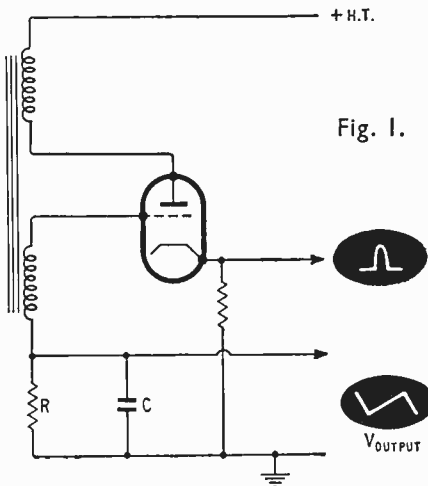
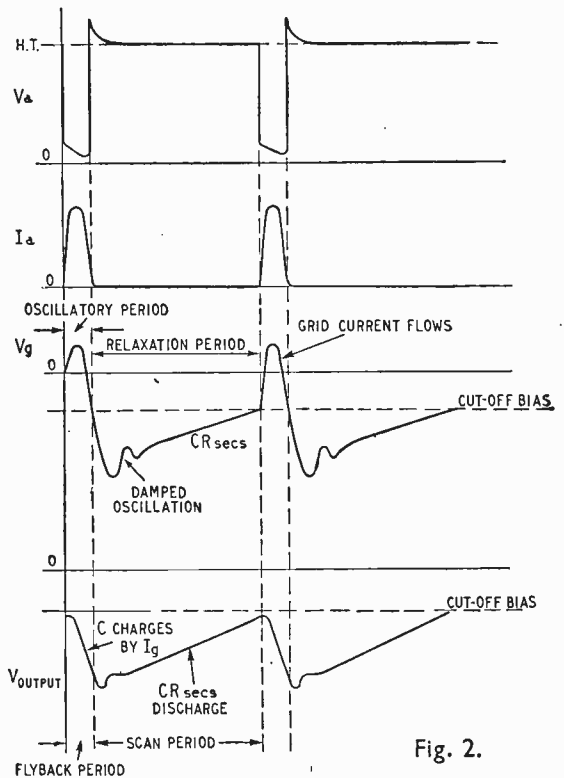

Fig. 1.
Fig. 2.
**A**LTHOUGH this type of relaxation oscillator is used primarily as a square-wave generator, a sawtooth waveform can be obtained from it. Fig. 1 shows a simple form of free-running blocking oscillator and Fig. 2 illustrates the waveforms.